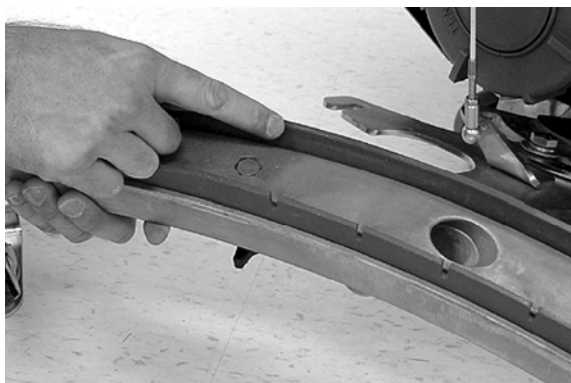

FIG. 48
8. Check the condition of the squeegee blade wiping edge (Figure 48). Rotate blade if worn. (See SQUEEGEE BLADE REPLACEMENT)